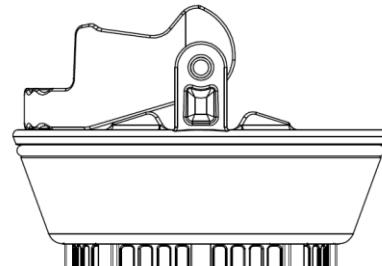

Fig. 7: Handle in "unlocked" position
- 2.1.1.2 Place basket on a level surface (basket will stand on its own), lay handle against basket ring in the "unlocked" position. (See fig. 7.)
- 2.5.1.5 After removing basket from body, place basket on a level surface (basket will stand on its own), lay handle against basket ring in the "unlocked" position. (See fig. 7.)